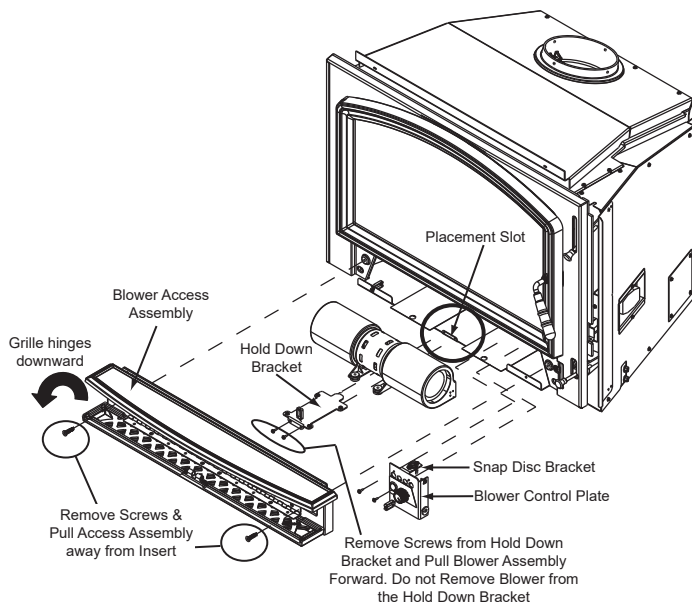

Figure 23.1
1. The grille on the blower access assembly is hinged. Swing the grille downward to expose the 2 screws (Figure 23.1).
1. The grille on the blower access assembly is hinged. Swing the grille downward to expose the 2 screws (Figure 23.1 on page 23).